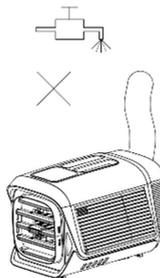

Fig9
- 3) Please do not wash with water directly (as shown in the picture below: Fig9);